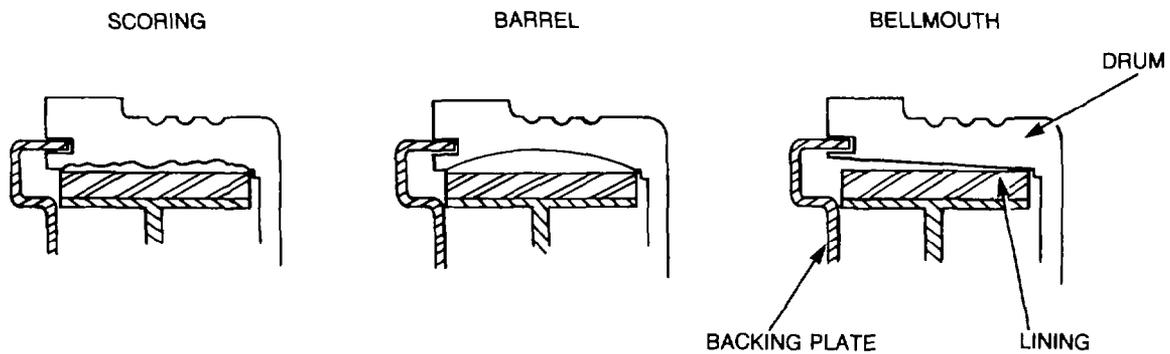

Figure 261 — Barrel and Bellmouth Wear
- d. Check the brake drum for scoring, barrel or bellmouth wear as shown in Fig. 261. Where wear is evident, measure the inside diameter of the drum using a suitable inside micrometer across the braking surface. If the depth of wear exceeds 0.13 mm (0.005 in.) the brake drum must be machined.